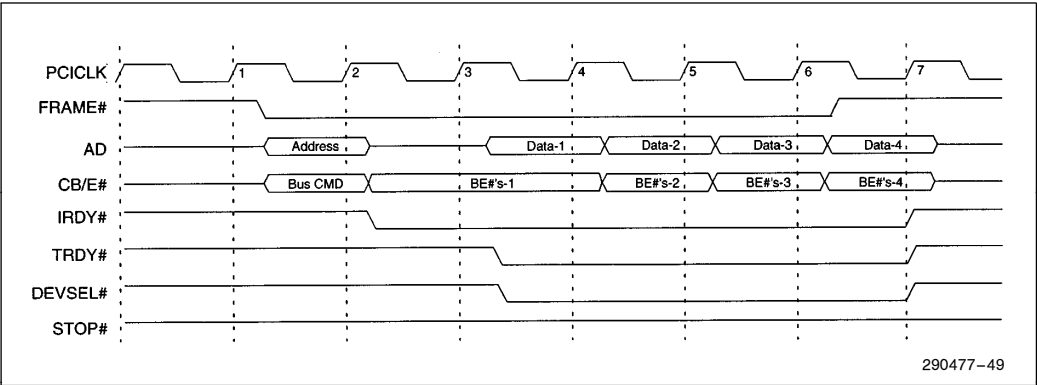

Figure 7. PCEB Burst Read from PCI Memory
The byte enables are used to determine which bytes carry meaningful data. These signals are permitted to change between data phases. The byte enables must be driven valid from the edge of the clock that starts each data phase and must stay valid for the entire data phase. Figure 7, the data phases begin on clocks 3 and 4. (Changing byte enables during a read burst transaction is generally not useful, but is supported on the bus.) The master is permitted to change the byte enables on each new data phase, although the read diagram does not show this. The timing for changing byte enables is the same for read and write transactions. If byte enables are important for the target on a read transaction, the target must wait for the byte enables to be driven on each data phase before completing the transfer.
**As a PCI master**, the PCEB performs memory and I/O read transfers. Figure 7 shows a PCEB zero wait state burst read from PCI memory (PCEB is a master). If buffering of memory accesses is enabled, read transfers use prefetching. When reading data from PCI memory, the PCEB requests a minimum of 16 bytes (one data line of the Line Buffer), via a four data phase burst read cycle, to fill one of its internal Line Buffers. The PCEB does not buffer PCI I/O reads and only required data is transferred during these cycles. Read Cycles to PCI are generated on behalf of EISA/ISA masters and DMA devices.
A single data phase is completed when the initiator of the cycle samples  $\text{TRDY}\#$  asserted on the same clock that  $\text{IRDY}\#$  is asserted. To add wait states, the target must negate  $\text{TRDY}\#$  for one or more clock cycles. As a master, the PCEB does not add wait states. In Figure 7, data is transferred on clocks 4 and 5. The PCEB knows, at clock 6, that the next data phase is the last and negates  $\text{FRAME}\#$ . As noted before, the PCEB can burst a maximum of four data cycles when reading from PCI memory.